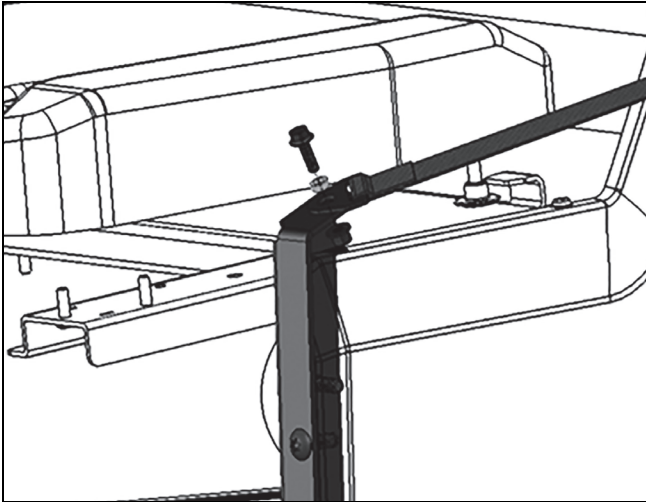

Fig. 35
16. Secure Door Strap to the strap bracket and the door using two Flange Hex Screws (M6 x 20 mm), two Spacers, and two M6 Flange Nuts. Tighten to 45 in.-lb. The strap ends should be free to rotate. See Fig. 35 and 36.